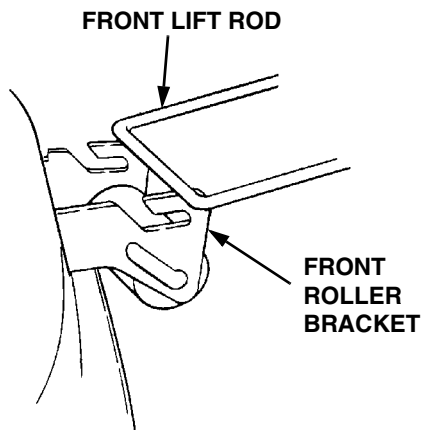

Figure 41
8. Slide the cutting deck toward the front of the tractor to lift the front lift rod from the roller bracket slots at the front of the deck, then slide the deck rearward so that the hanger rod will not engage the roller bracket slots. (See Figure 41).